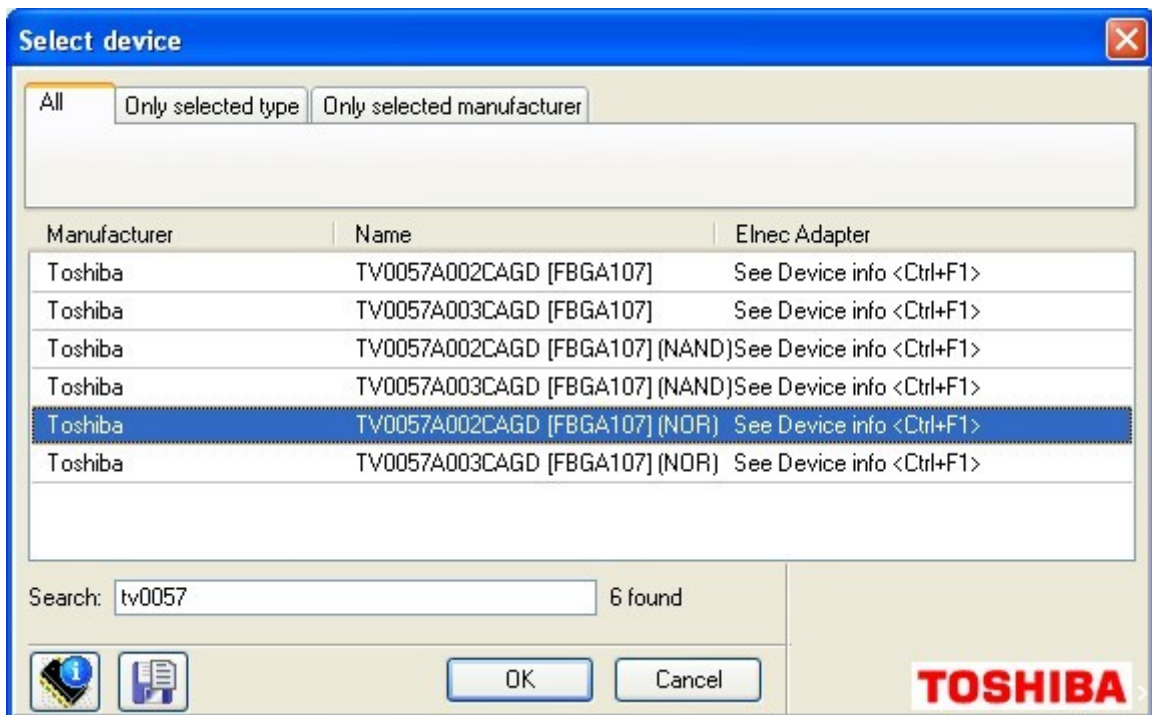

Figure 15: Selecting NOR part of multi-chip device.
1. Then, display Select device window again and list for other Sub-device, i.e. TV0057A002CAGD [FBGA107] (NOR) in this example (see Figure 15).